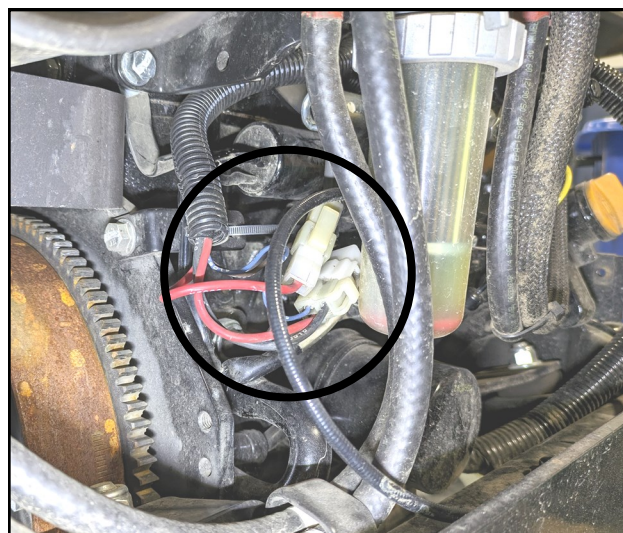

Fig. 1.32 (Disconnect White Connectors)
1.32 Disconnect the white wire connectors shown in Figure 1.32, and pull the harness out from behind the fuel hardlines.